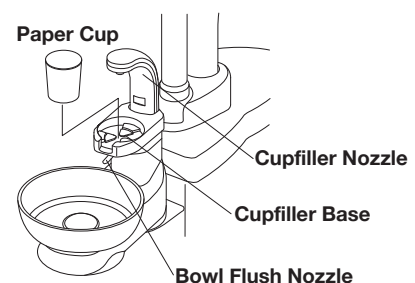

Fig.3-25 Sensor Cupfiller
(5) Sensor Cupfiller (Optional) (Fig.3-2, Fig.3-3 & Fig.3-25)